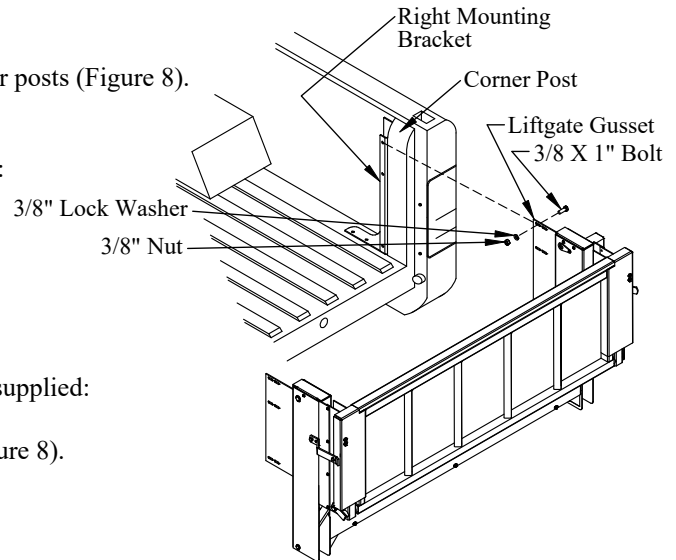

Figure 8: Mounting bracket and liftgate.
2. **Position** the mounting brackets into the truck bed in front of the corner posts (Figure 8).
- (3) 3/8"x1" hex head bolts on the bracket-side (Figure 8).
- (3) 3/8" lock washers, and (3) 3/8" nuts on the gusset-side (Figure 8).
8. **Drill** two (2) 3/8" holes into the truck bed floor using two holes in the bracket as a guide (Figure 8).